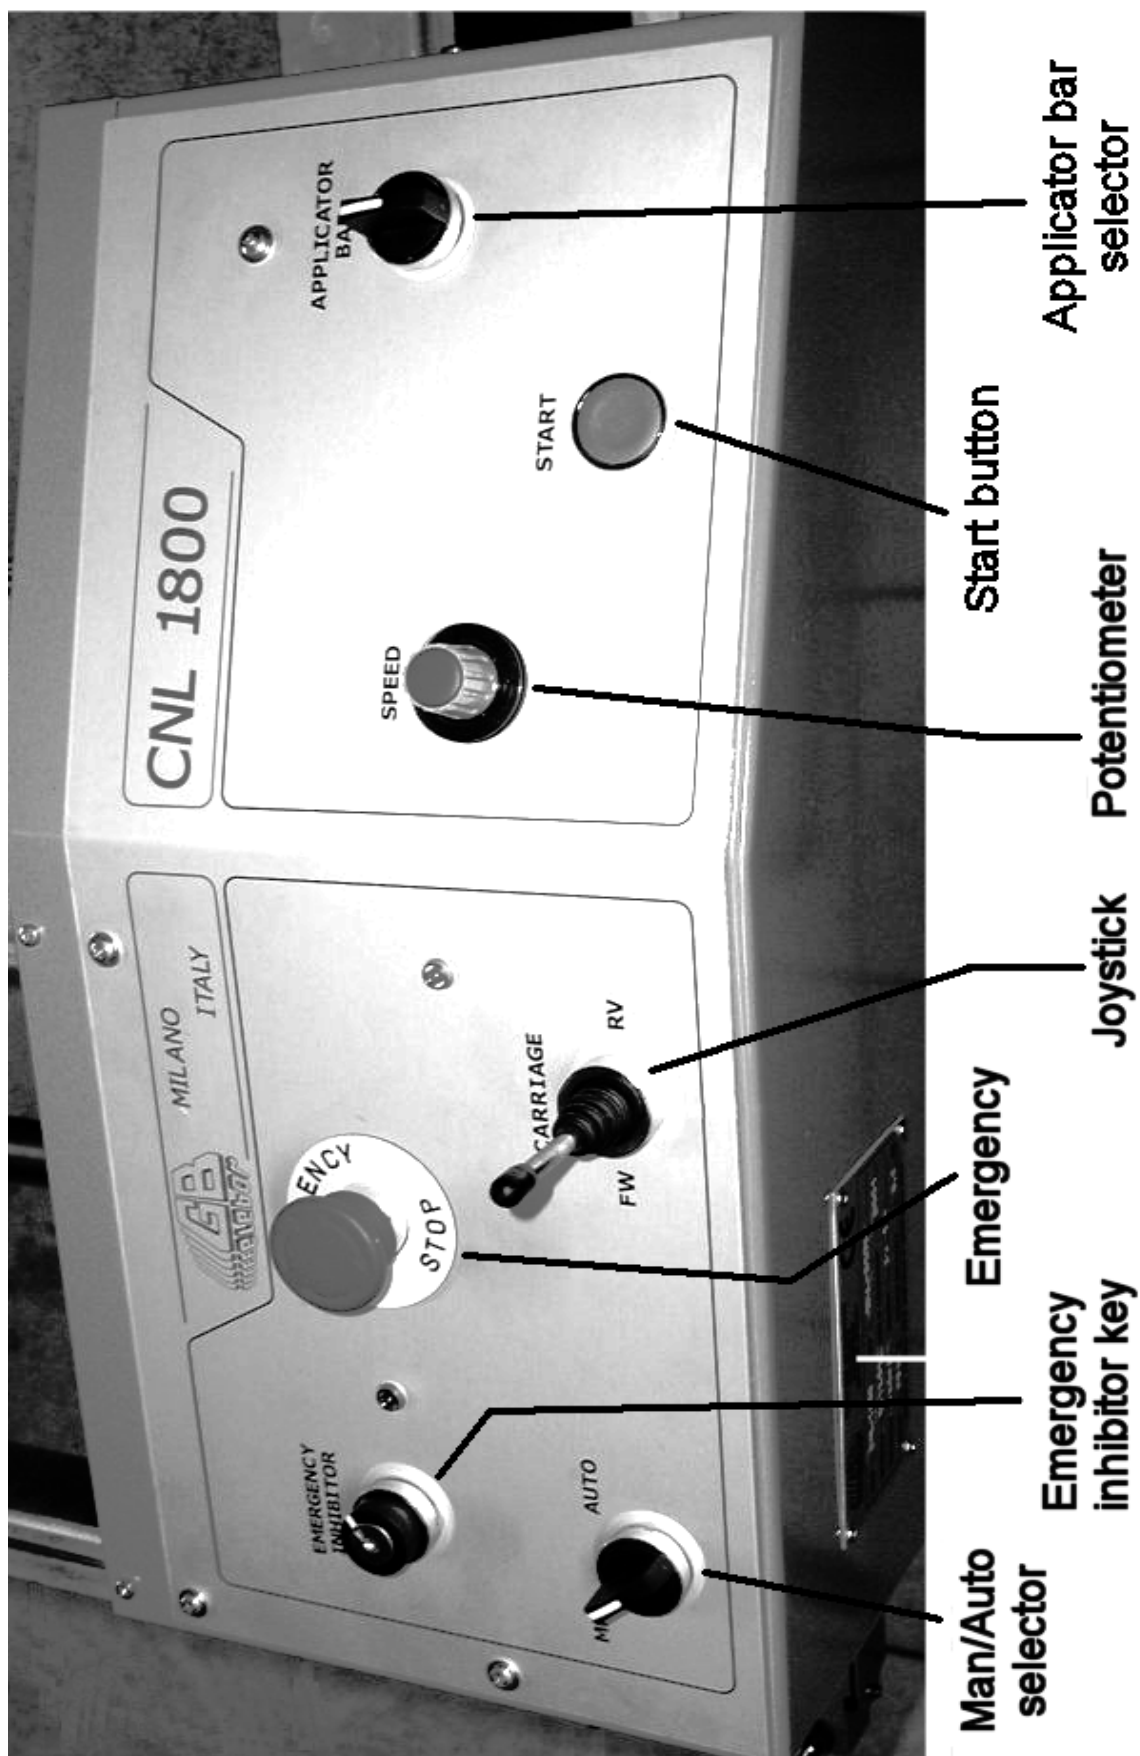

Fig. 2
2. When the **yellow LED** became bright (see fig. 2 **(BT)**) the car is receiving electric power.
3. After few seconds the **red LED** (see fig. 2 **(Emergency)**) which signals emergencies is going to blink; that mean that CNL1800 is ready to work but in stop state
1. Turn the job mode selector towards **MAN** (see fig. 2)
2. Press the **START** button (see fig. 2):
To work in manual mode you need to turn the **MAN/AUTO** selector towards **MAN** (see fig. 2).
Turning right the **APPLICATOR BAR SELECTOR** (see fig. 2) the applicator bar pushes down the tape on the fabric.
Turning left the **APPLICATOR BAR SELECTOR** (see fig. 2) the applicator bar pulls up the applicator from the fabric.
To tune the CNL1800 speed you need to rotate the **POTENTIOMETER** (see fig. 2).
3. Press **START** (see fig. 2)
6. Then press **START** (see fig. 2) again
1. Turn selector on **MAN** (see fig. 2) to access to the manual commands
3. Turn the selector on **AUTO** (see fig. 2)
7. Press **START** (see fig. 2)
11. Press **START** (see fig. 2) to bring back CNL1800
- The big **red emergency** button (see fig. 2 (**Emergency**)) has been pressed
- if the **red led** (see fig. 2 (**Emergency**)) is on but not blinking then the inverter that drives the CNL1800 translating motor is out of order:
- if the **yellow led** (see fig. 2 (**Emergency**)) is off there is no power supply for the auxiliary circuits. Please check for the fuse integrity.
Simply press **START** (see fig. 2) again.
If the power supply takes back within 280 hours (round 7 days!) it is enough to press two times **START** (see fig. 2), one for the switching on emergency and one to start again the cycle.